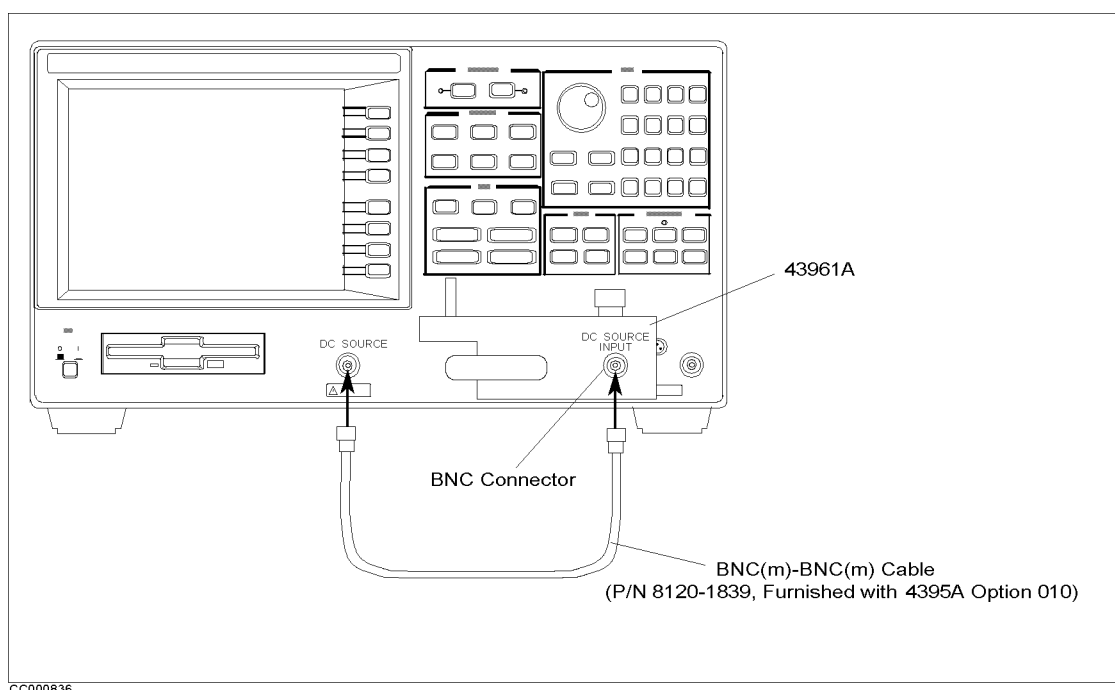

Figure 8-30. Connecting DC SOURCE to Impedance test kit
2. Connect a BNC cable between the DC SOURCE port and the impedance test kit's DC SOURCE INPUT port (see Figure 8-30).